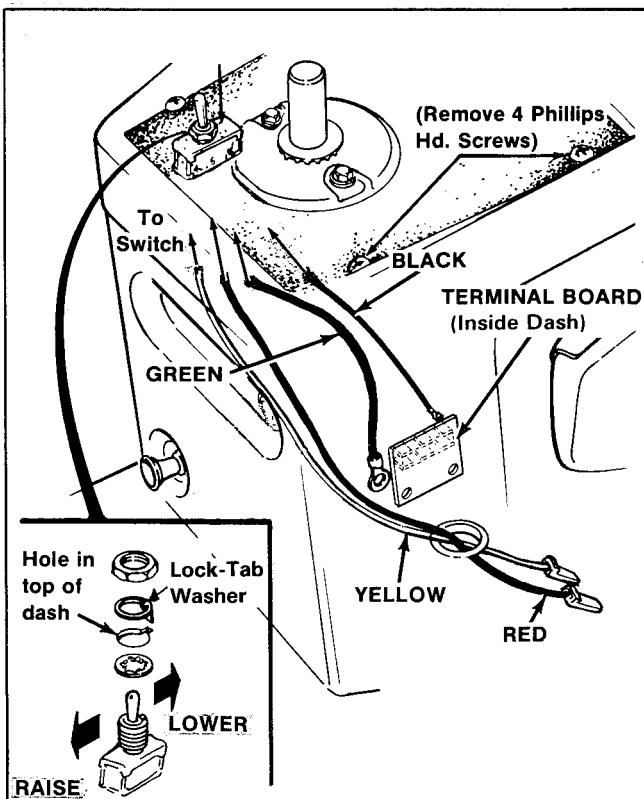

Figure 1.
3. Remove the upper dash assembly (4 phillips head screws). See figure 1.
4. Remove the rear-most plug from top of dash. Install the toggle switch so the black and green wires are toward rear of tractor (figure 1). Use the starwasher and nut as shown in box in figure 1. Some switches also have a lock-tab washer; install it so tab fits in slot as shown.
6. Route red and yellow wires down through hole in tractor frame. See figure 1.